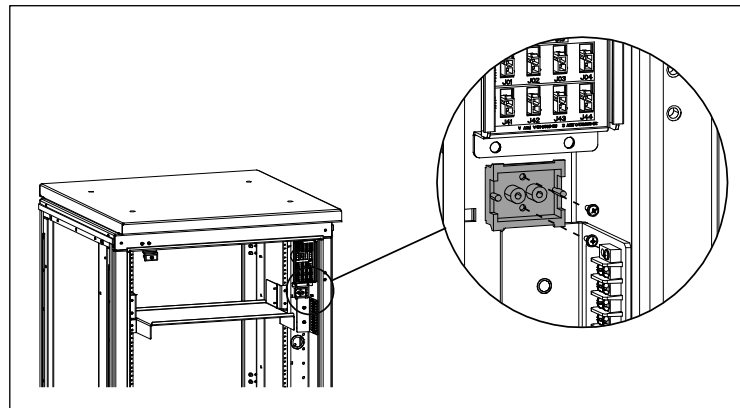

Figure 10 Install Thermostat Bracket
3. Install the thermostat mounting bracket onto the rack rail using available holes (Figure 10, bracket shaded in gray). If no available holes align with the holes on the thermostat bracket, then drill holes for the bracket. Use touch-up paint on the newly drilled holes to prevent corrosion. Secure the bracket using the two 4-40 screws and nuts included with the kit.